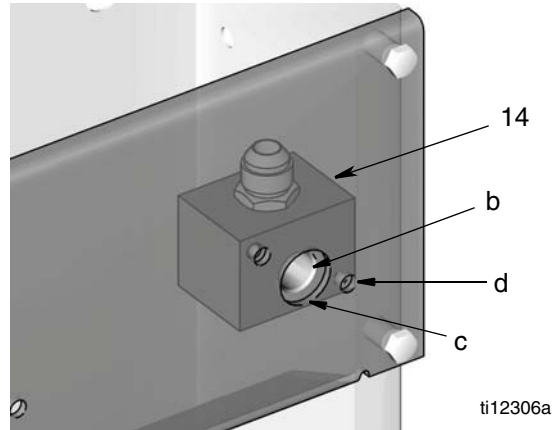
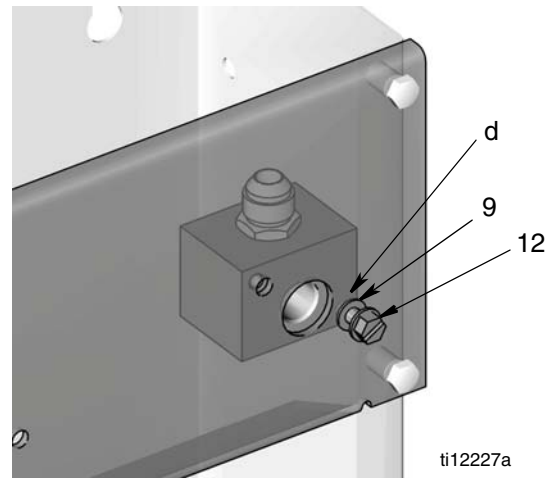

FIG. 12
FIG. 13
2. Position manifold (14) inside oil bar, orienting opening (b) on the front of the manifold with the opening (c) in the front panel (107) as shown in FIG. 12.
3. First, only install **lower** front screw (12) and washer (9) in opening (d) to loosely secure manifold to front panel. (Refer to FIG. 12 and FIG. 13.) **Do not snug or tighten the screw securely.** Only turn it until threads are engaged enough to hold the manifold in place.